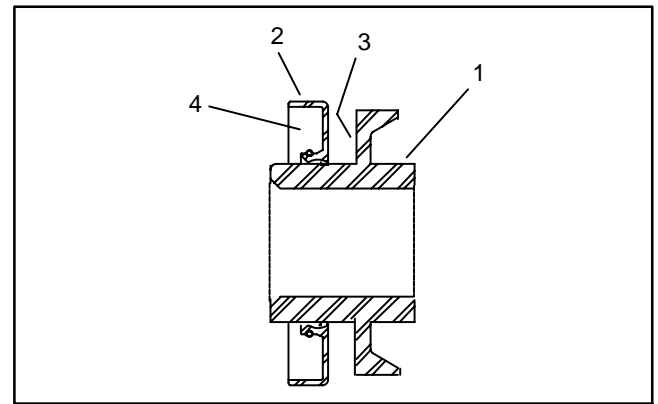

Figure 32
5. Apply a coating of grease to the nut surface to prevent seal damage during seal installation (Fig. 32).
6. Carefully install seals onto bearing lock nuts. Pack the back of the seal 75 to 90% full with #2 grease (Fig. 32).